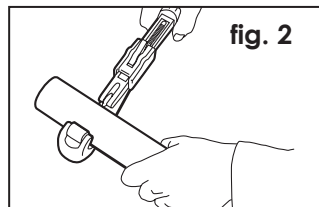
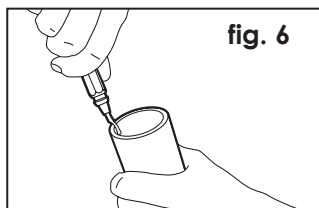

fig. 2
fig. 6
**25 mm - 110 mm (fig. 2)**
**32 mm – 110 mm (fig. 6)**
a) Preparation of the MULTITUBO systems multi-layer pipe as described in point 3.1.1. (fig. 2, fig. 6).